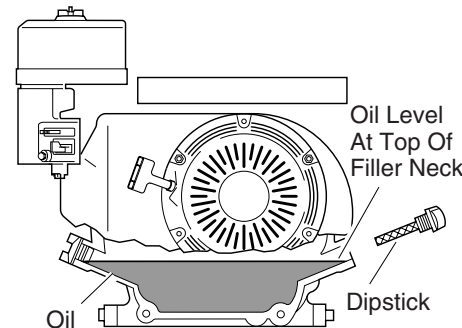

Figure 7 - Checking Oil Level (Model MGH4000C Shown)
1. Remove dipstick (see Figure 7). Wipe dipstick clean.
3. If level is low, fill to top of oil filler neck (see Figure 7). For Model MGH10000 only, fill to top dot on dipstick. Only use oil recommended in engine owner's manual.